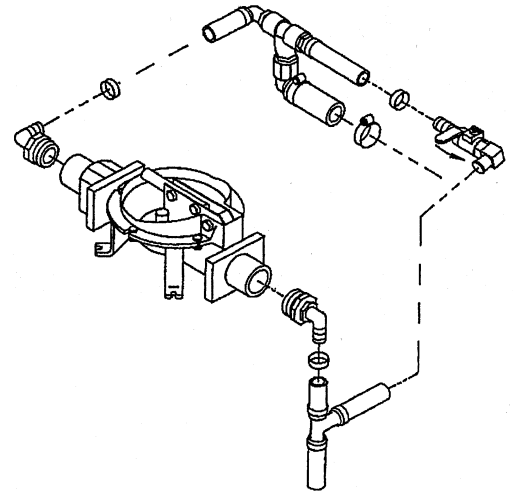

FIGURE 1
4. To flush aircraft toilet, the three way ball valve on the fill pump must have its handle towards the hand pump as shown in **Figure 1**. Follow aircraft manufacturer's requirements for flushing. Six (6) strokes of fill pump will deliver one (1) gallon.